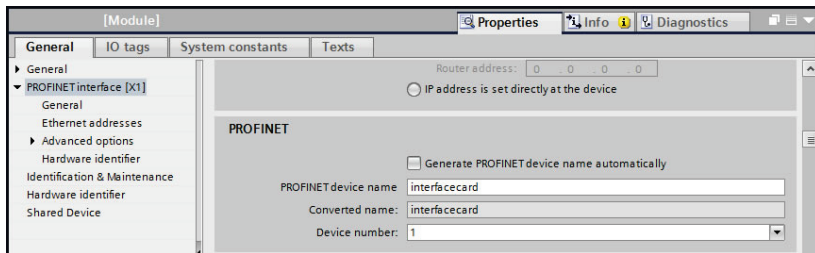

Figure 87: Assign Unique Device Name
2. Assign a unique **PROFINET device name** as shown in Figure 87.